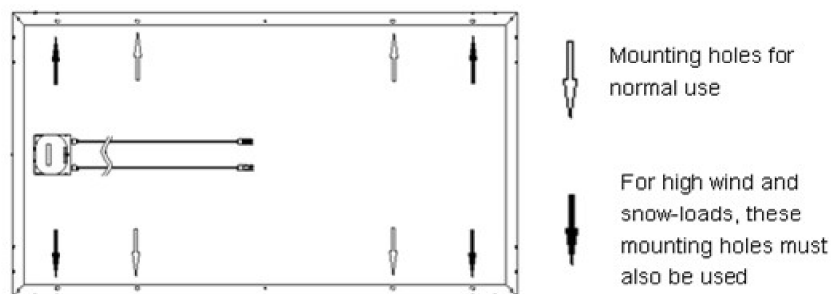

FIG 5 Mounting holes
- ✚ The frame of each module has 4 mounting holes used to secure. As shown in Figure 5, four mounting holes are needed in normal. Regarding to large modules of type 72, eight mounting holes are needed or in the condition of sustaining higher load.